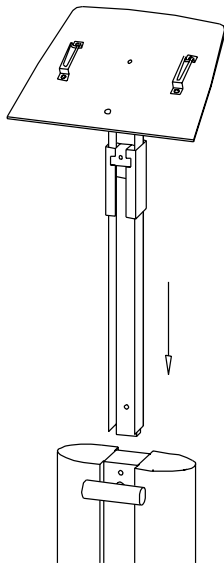
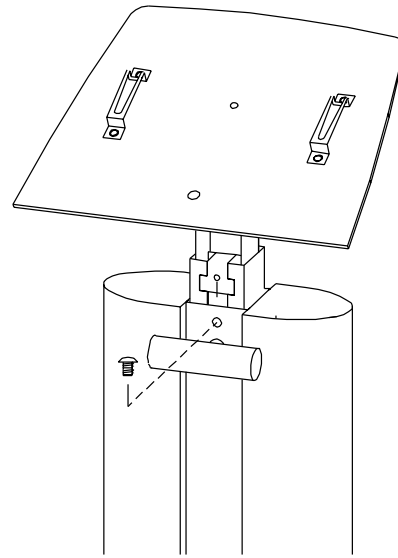

FIGURE 1
FIGURE 2
Slide the sleeve assembly up the channel until it touches the tapped hole. While holding the sleeve assembly in place, insert the plate assembly into the upright as shown in **Figure 1**. **NOTE:** You may have to loosen the handle to allow the plate assembly to place through. Guide the plate assembly into the upright until the top upright hole and the steel rider hole are aligned. Connect with screws (BB) as shown in **Figure 2**. Tighten handle.